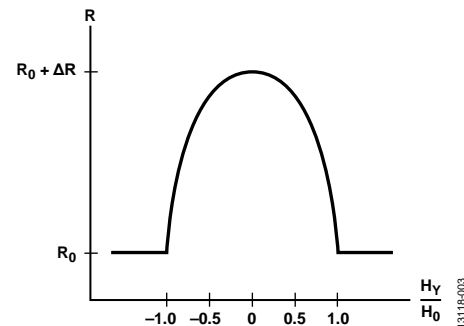

Figure 3. Permalloy Resistance vs. Magnetic Field
First, permalloy has a narrow linear operating region (see Figure 3). Only when the angle (θ) between the magnetization vector (M) and current flow vector (I) becomes larger does the response become linear. Unfortunately, shortly after the response becomes linear, the permalloy saturates.